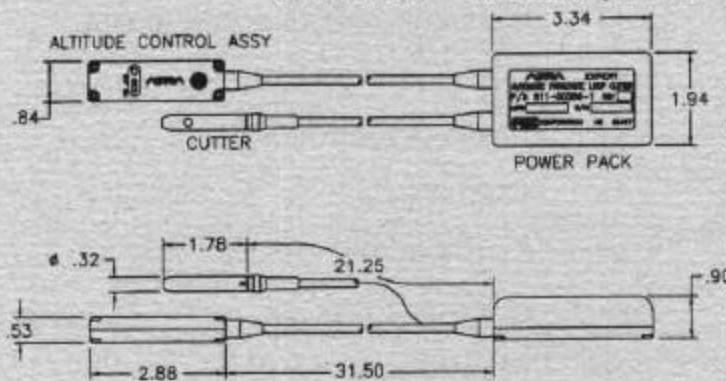

FIGURE 1
2.2 The ASTRA is small in size, extremely rugged, and simple to operate. The ON/OFF switch, when turned to "ON," automatically calibrates the unit, checks continuity of the entire system, and continuously confirms the status of the batteries (see Figure 1).